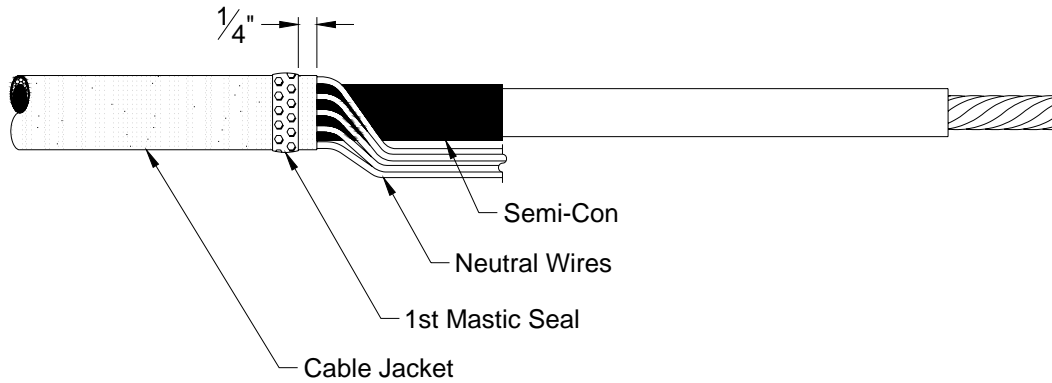

Figure 2 – Apply Mastic
2.3 Apply mastic strip per Figure 2.